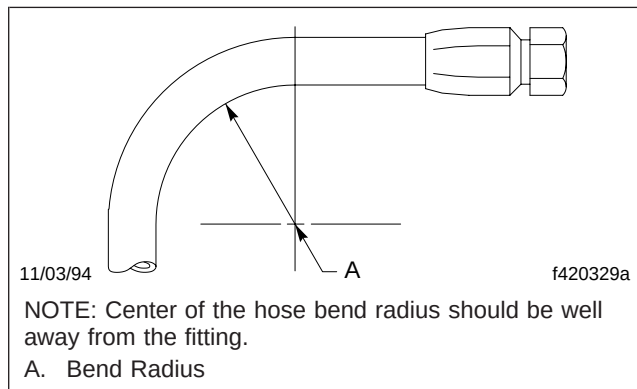

Fig. 11.6, Bend Radius
40.8 Check the bend radii of all hoses. See Fig. 11.6. The minimum bend radius of a hose is that bend which the hose will withstand without experiencing damaging stresses or kinking. For minimum bend radius values, see **Group 42** of the *Acterra® Workshop Manual*.